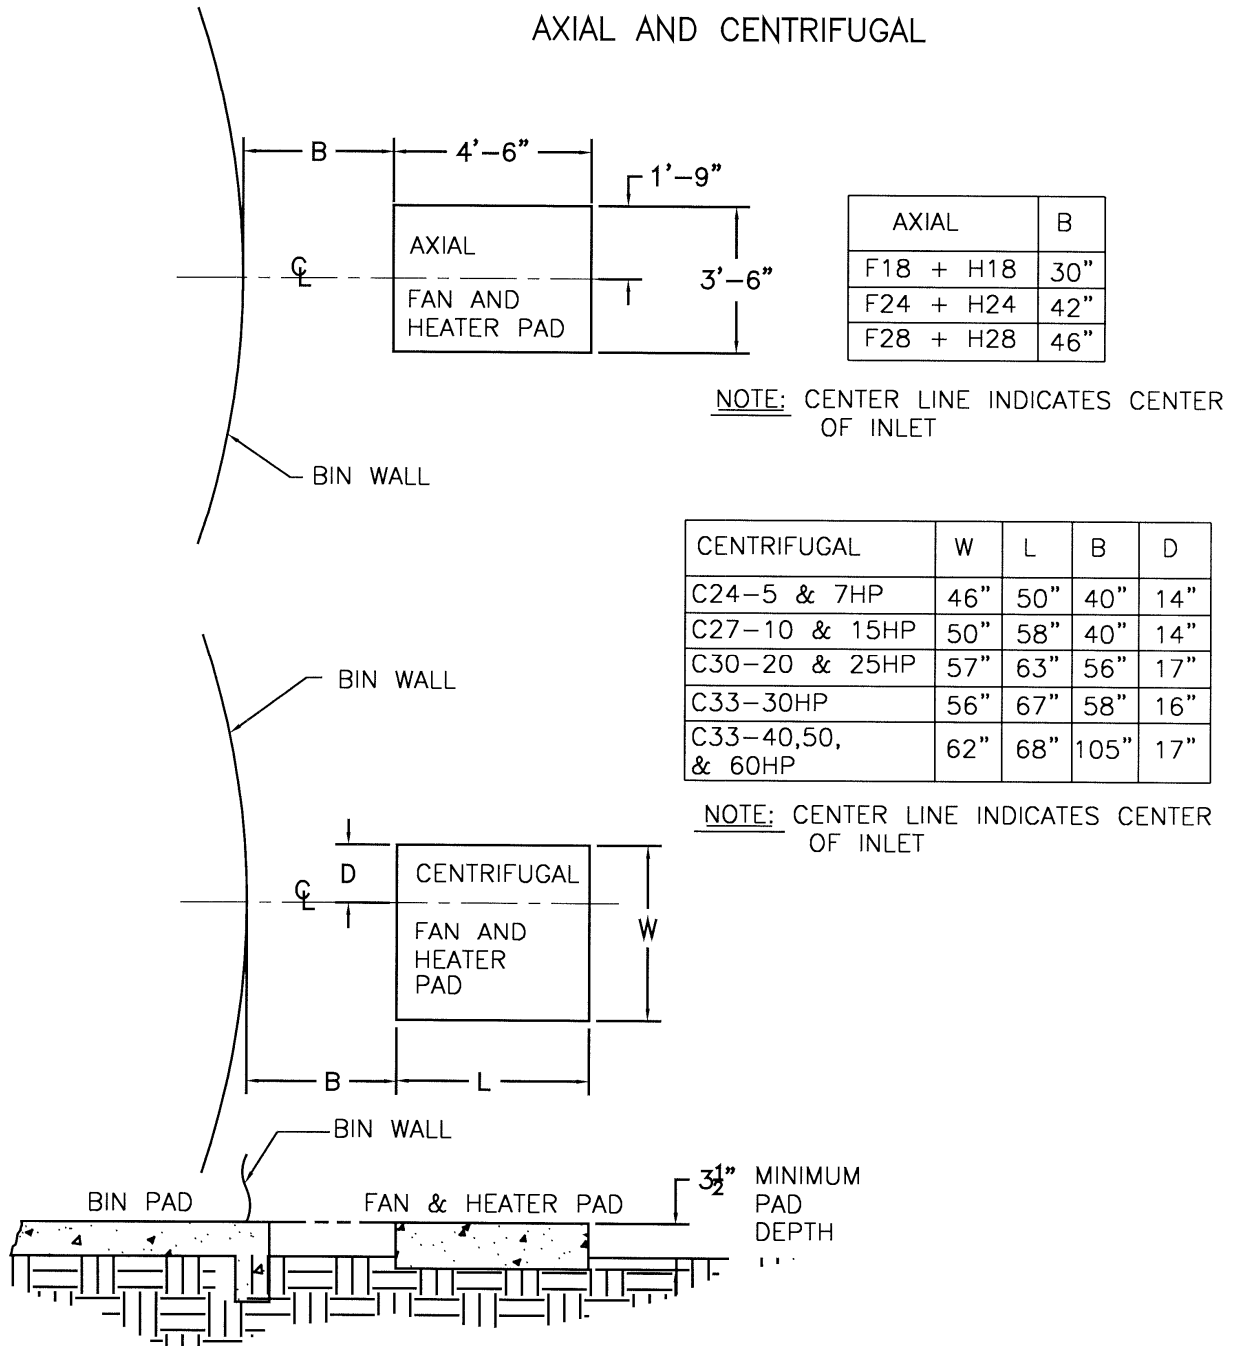

Figure 6. Fan and Heater Mounting Pads
C. For proper operation of heater, the fan and heater are to be mounted on a level pad. The pad should be the same height as the concrete floor. The size of the pad should be as indicated in **Figure 6** on page 17.